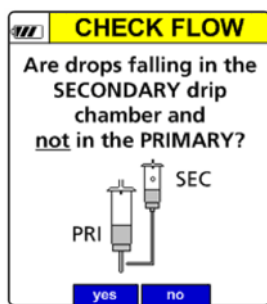

Figure 48. Secondary Check Flow.
12. Once **RUN** is pressed, the infusion will start and the Secondary Check Flow screen is displayed. Confirm there are no drops falling in the primary drip chamber and there are drops falling in the secondary drip chamber. See Figure 48.